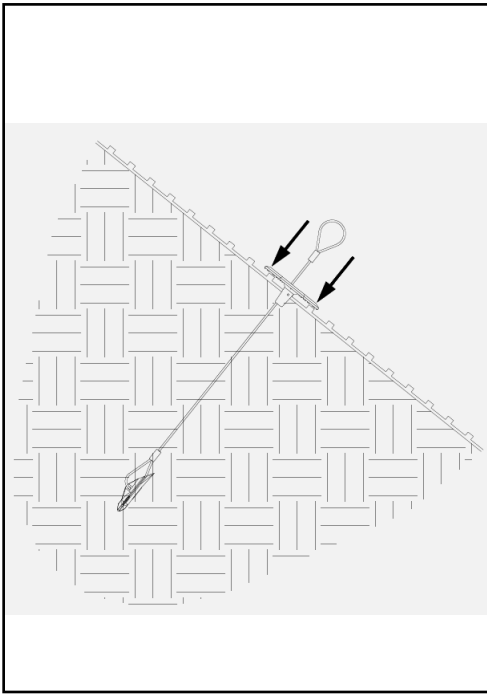

Figure 9: Slide Plate
4. Slide the load bearing plate down the anchor tendon towards the channel surface using your hands (Figure 9).